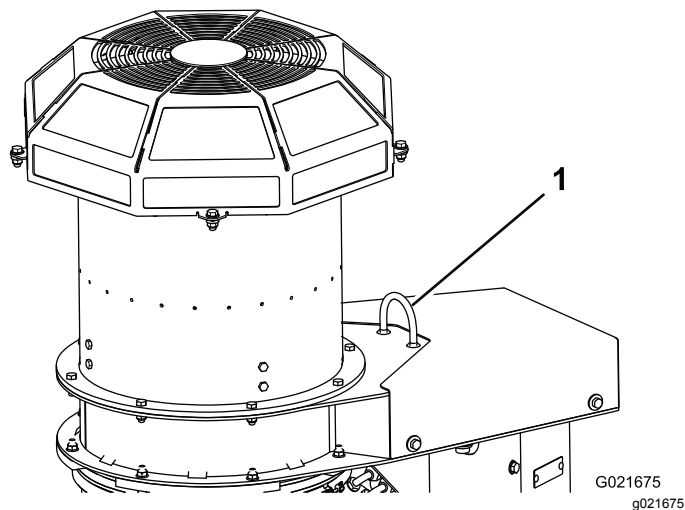

Figure 6
6. Remove the strap from the pallet and attach it to the lift loop on the blower (Figure 6).